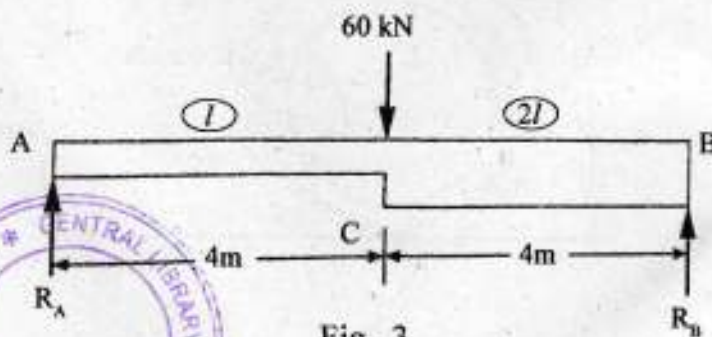

Fig. 3
- (b) Determine rotation at A, C and deflection at C in the beam as shown in figure 3 using conjugate beam method. 8